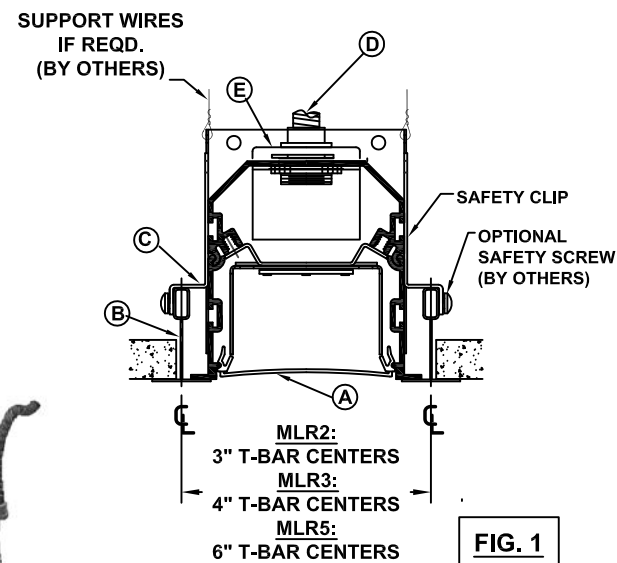

FIG. 1
MODIFY IF NECESSARY AND MOUNT A 2' OR 4' (AS REQUIRED) LENGTH OF T-BAR (B) ON CENTERS AS INDICATED BELOW FROM EXISTING T-BAR. (REF. FIG. 1)
LOOSEN LOCK NUTS AND ADJUST SAFETY BRACKETS (C) SO THAT THEY ARE APPROXIMATELY 2" FROM EACH END OF FIXTURE AND RESTING ON TOP OF T-BAR. TIGHTEN LOCK NUTS SECURELY. (REF FIG.1) NOTE THAT T-BAR SAFETY CLIPS MAY BE SCREWED TO T-BAR IF REQUIRED BY LOCAL CODE. (FASTENERS PROVIDED BY OTHERS)